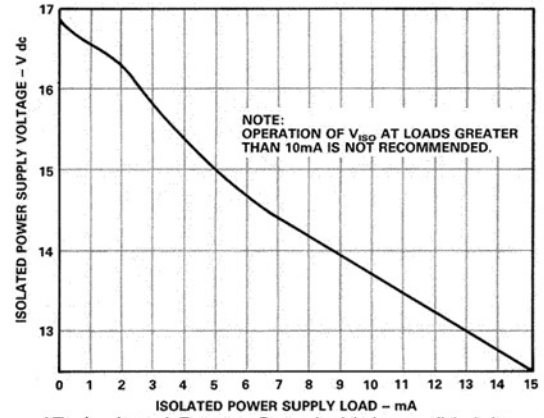

Figure 17. Isolated Power Supply Voltage (V dc) vs. Isolated Power Supply Load (mA), with  $V_S = 15\text{ V pk-pk}$ , 25 kHz Square Wave
6Refer to Figure 17 for a curve illustrating the load drive capabilities of the isolated power supply.
**Isolated Power Supply.** The load characteristics of the AD208's isolated power supplies are plotted in Figure 17. It is recommended that the isolated power supply load not exceed 10 mA as permanent damage to the internal power circuitry of the AD208 may occur.